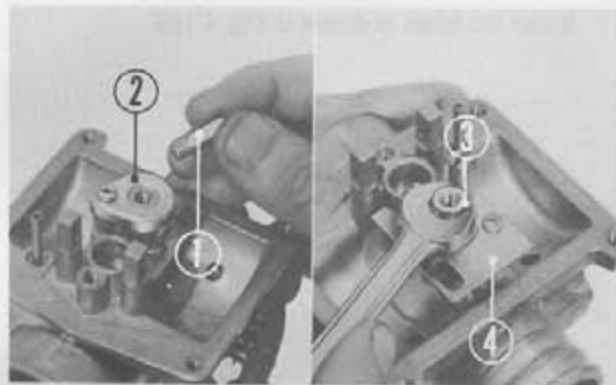

Fig. 4-107 ① Main jet ③ Jet needle
② Float ④ Valve seat
6. Remove each part as shown in Fig. 4-107.